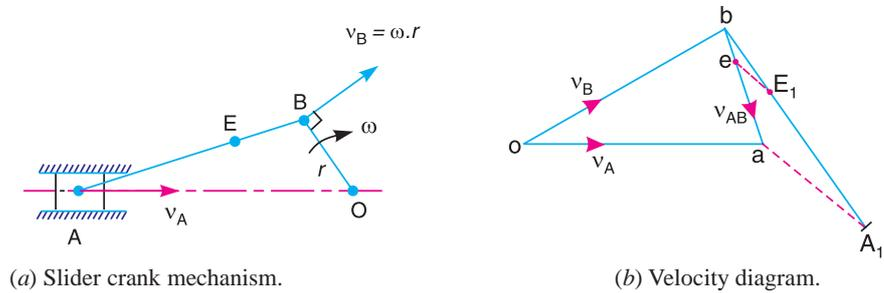

Fig. 7.5
A slider crank mechanism is shown in Fig. 7.5 (a). The slider  $A$  is attached to the connecting rod  $AB$ . Let the radius of crank  $OB$  be  $r$  and let it rotates in a clockwise direction, about the point  $O$  with uniform angular velocity  $\omega$  rad/s. Therefore, the velocity of  $B$  i.e.  $v_B$  is known in magnitude and direction. The slider reciprocates along the line of stroke  $AO$ .
- From any point  $o$ , draw vector  $ob$  parallel to the direction of  $v_B$  (or perpendicular to  $OB$ ) such that  $ob = v_B = \omega.r$ , to some suitable scale, as shown in Fig. 7.5 (b).